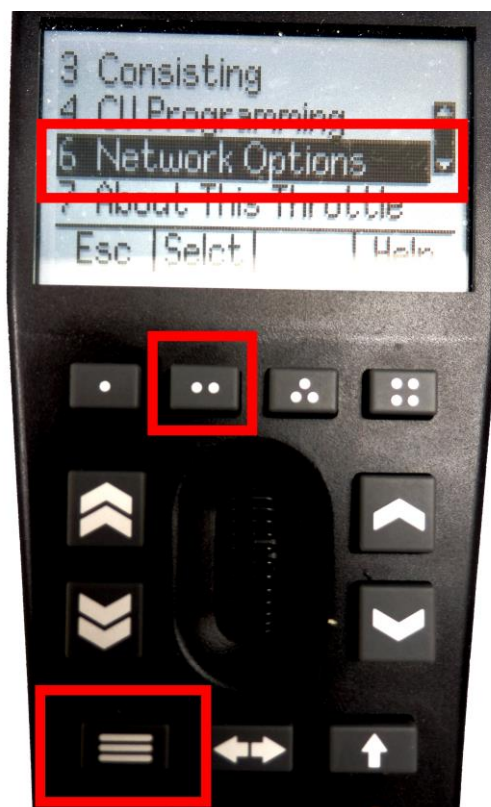

Figure 20 Selecting the Network Options menu on the UWT-100
- (2) Press the Menu button on your UWT, use the up/down chevron buttons to choose Network Options, then press the Selct button [.] to open the Network menu as in Figure 20.